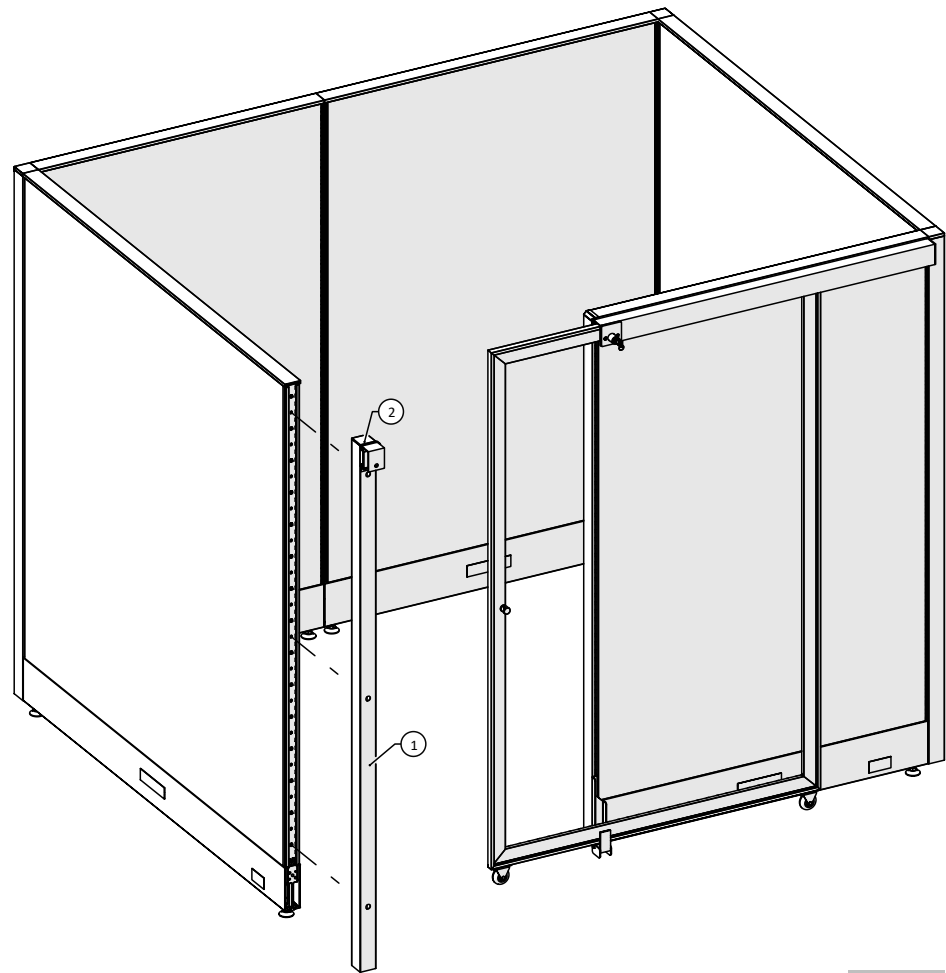

Figure 2
- 2. Align the sliding door post to the side of the panel and flush it with the top of the panel; check the 3 holes of the sliding door post if there's a screw visible. If there's a screw, unscrew that screw from the panel and use it to fasten the sliding door post, (Figure 2).